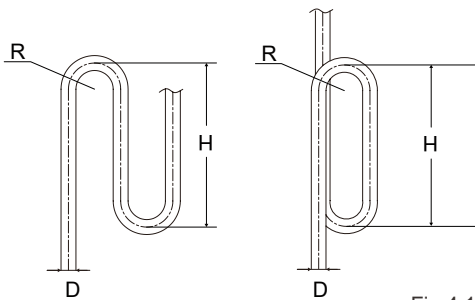

Fig 4.11
- When the outdoor unit is above the indoor unit, and the level difference exceeds 20 m, it is recommended that an oil return bend be set up at every 10 m interval on the gas pipe of the main piping. The recommended specifications of the oil return bend are as shown in figure 4.11.
Requirement: The largest level difference between indoor unit and outdoor unit should not exceed 25m (if the outdoor unit is above) or 20m (if the outdoor unit is below). Additionally: If the outdoor unit is above and the level difference is greater than 20m, it is recommended that an oil return bend with dimensions as specified in Figure 4.11 is set every 10m in the gas pipe of the main pipe.